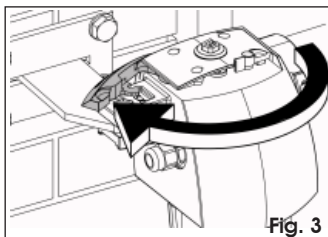

Fig. 3
4. Rotate the release lever until it stops, (Fig.3).